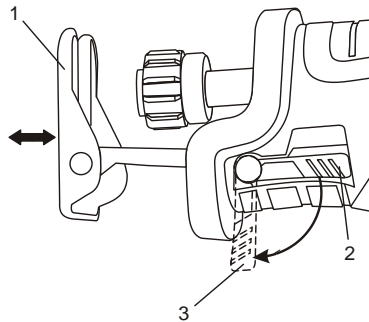

Fig. 2
1. To adjust the pivoting shoe (1), rotate the pivoting shoe adjusting lever (2) to its downward position (3) (Fig. 2).